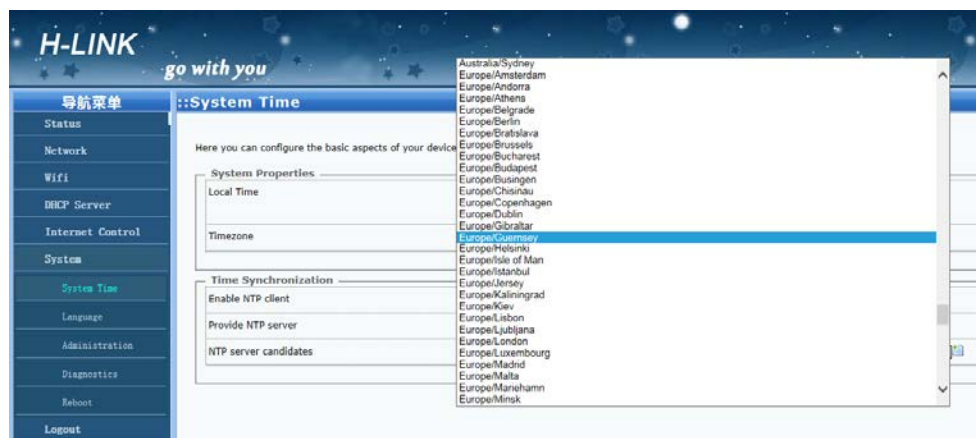

Figure 3.1.2 Select Time Zone
- 2) Select Time Zone: Click “System” > “System Time”, select the corresponding Time Zone shown as the Figure3.1.2, then click the “Save & Apply”.